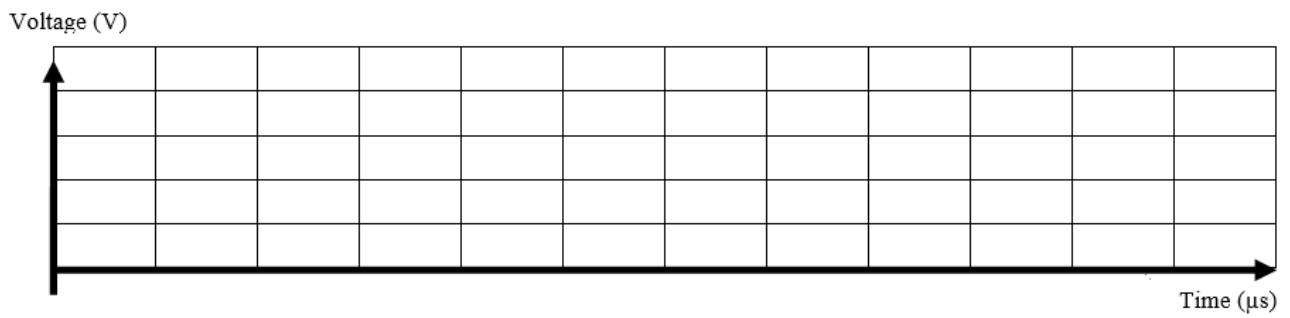

Fig. 21: Acquired Waveform (Clock and Data) when transmitting number 0x5.
**#Task:** Plot the Ch1 and Ch2 waveform obtained when transmitting a 0x5 value in Fig. 21 below.